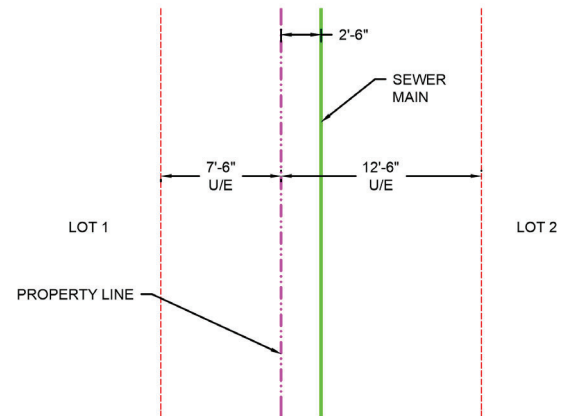

Figure 15 - Wastewater Installation Mid-Block
- 4.3. When a public wastewater main is located between two lots that are located mid-block a minimum twenty (20) feet U/E is required. Seven feet six inches (7'-6") U/E on one lot and twelve feet six inches (12'-6") is required on the other to make up the total twenty (20) feet. The wastewater main must be installed two feet six inches (2'-6") from the property line on the larger U/E side. This ensures that the wastewater main is located the farthest distance possible in between the two lots. See figure 15.